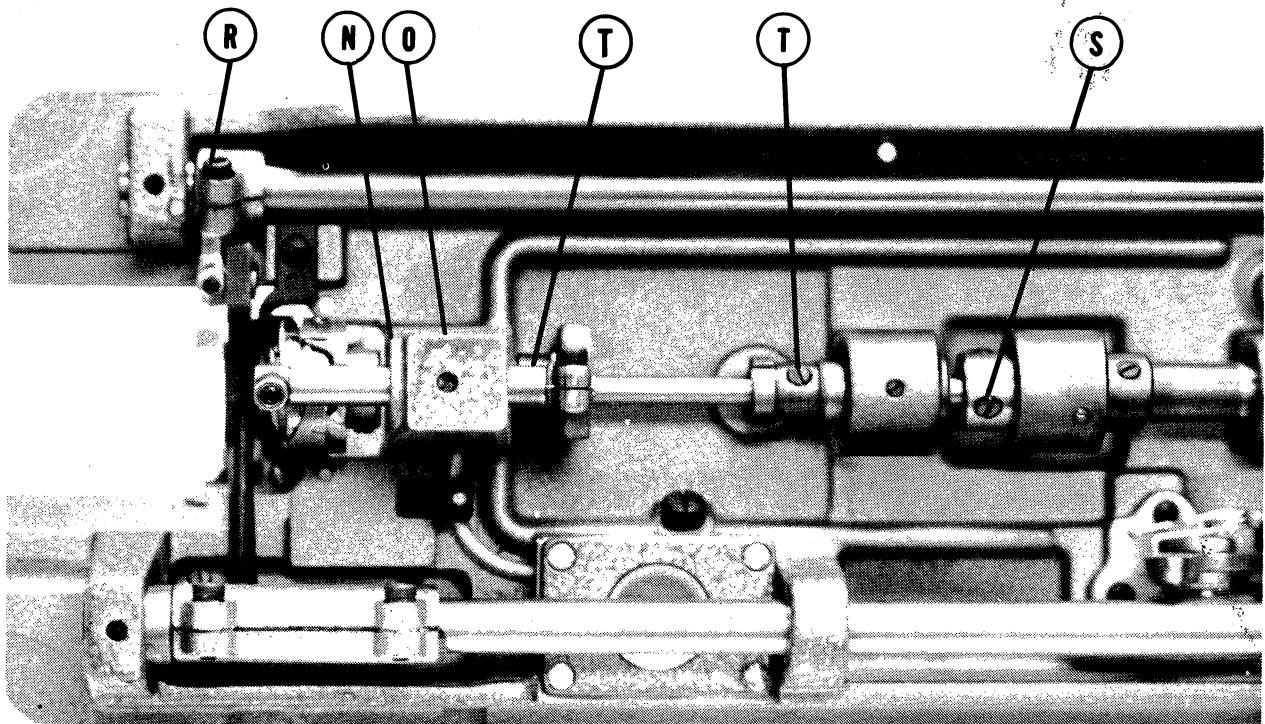

Fig. 9
If the timing of the rotating loop taker (hook) should be incorrect, loosen the three set screws (S) (Fig. 9) in the left hand hub of the safety clutch assembly and turn it on its shaft to bring the point of the loop taker into the correct timing. Tighten set screws (S) and re-check that the setting has not been disturbed.
- a. Loosen set screws S about one turn (See Fig. 9).
- b. On machines with horizontal axis loop takers (hooks), the feed dog may be raised or lowered by loosening clamp screw "R" (Fig. 9) in the feed lifting crank. Tap crank to position feed dog as stated (see preceding paragraph) and tighten clamp screw.